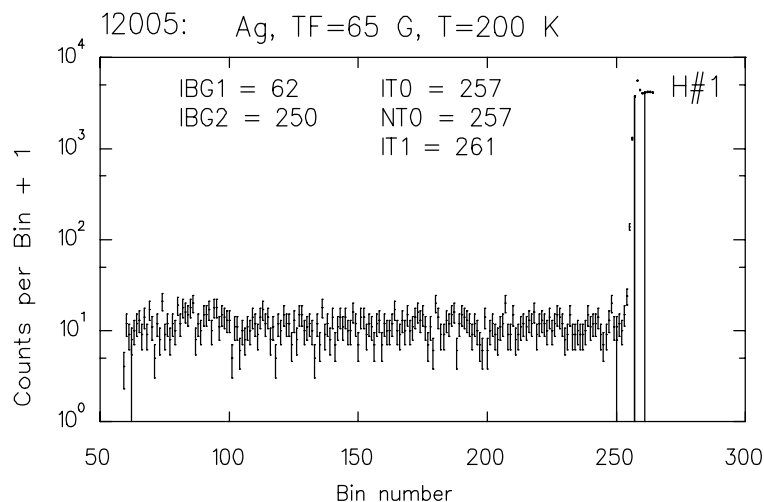

Figure 4.3: Output of the EARLY macro.
**EARLY** This command is a sort of hybrid of T0 and BKGD in that it displays the region from just before IBG1 to just after NT1 [or IT1] for each histogram and displays the values of IBG1, IBG2, NT0, ITO, NT1 and IT1 on the plot (colour-coded if you have a colour display); Fig. 4.3. The vertical axis is shown on a log scale so that background and signal will both show up clearly. The EARLY command will only determine new NT0 values if the current NT0 values are zero, so if you adjust the experiment's timing, you must either execute T0 explicitly or zero the NT0 array before executing EARLY.